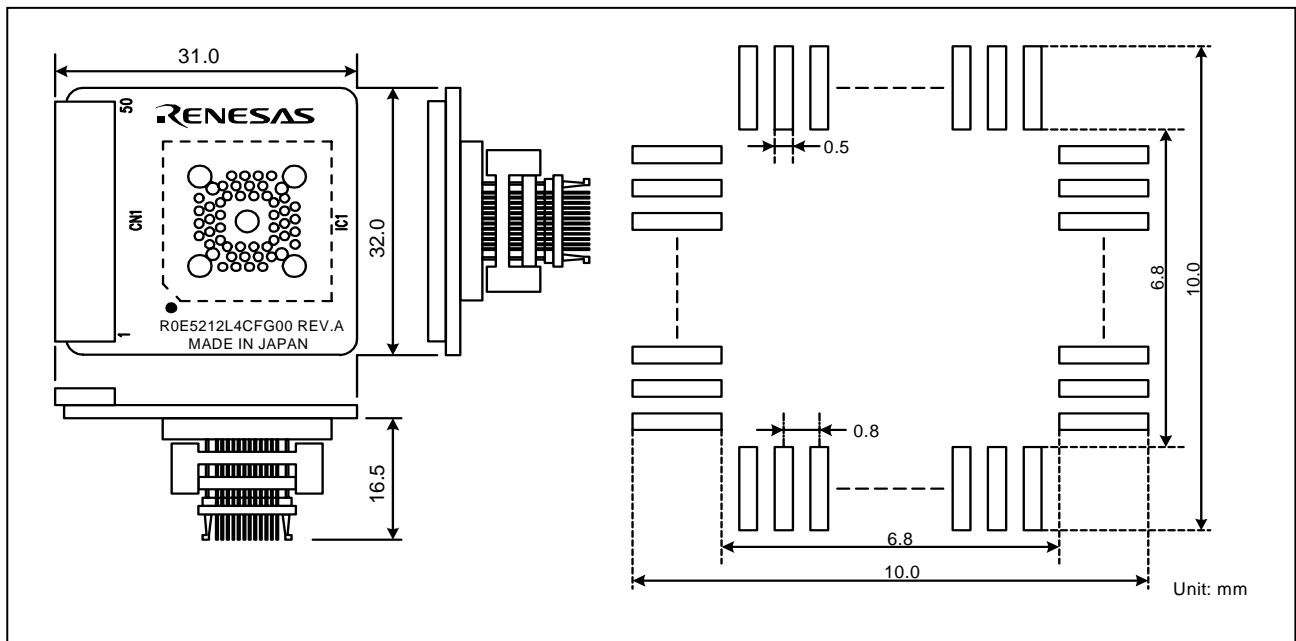

Figure 4 External dimensions and a sample foot pattern of the R0E5212L4CFG00
6. External Dimensions and a Sample Foot Pattern (See Figure 4)